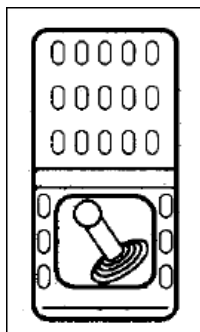

Fig 56.
- 1 Park the machine on firm level ground. Lower the attachments to the ground, apply the park brake and set the transmission to neutral → Fig 56. (□ E-33).